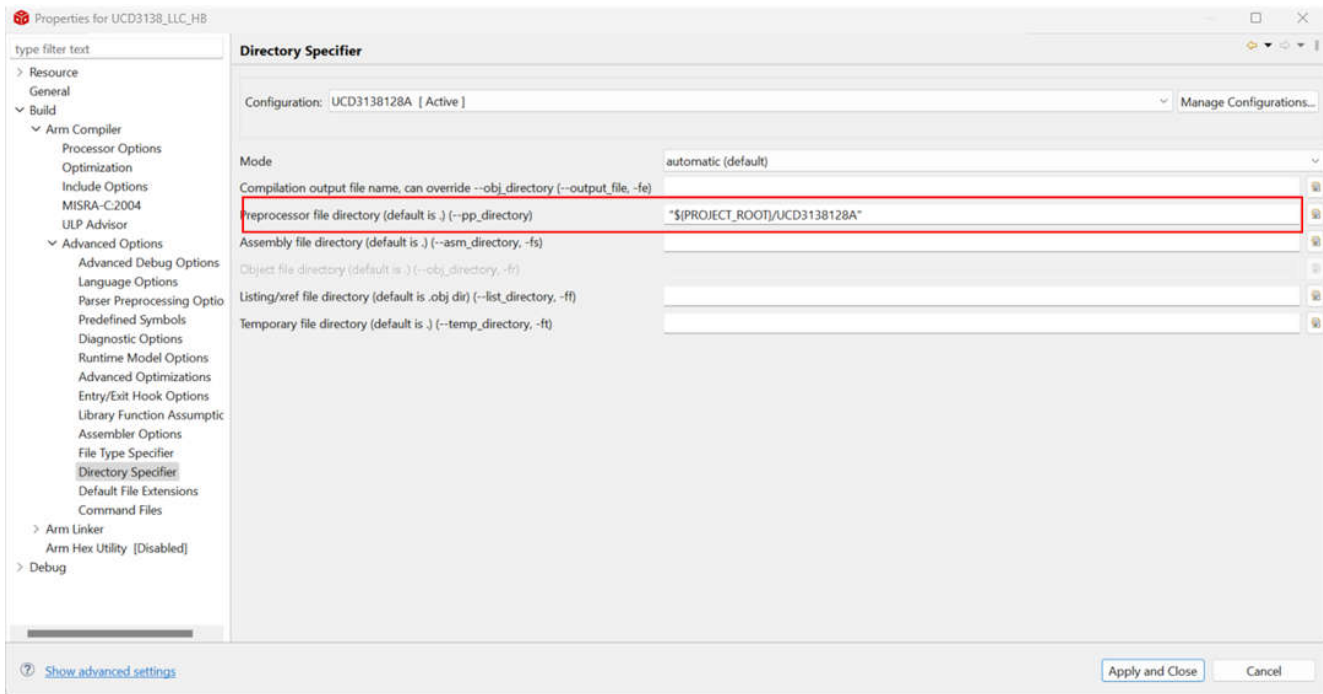

Figure 2-11. Correct Project Path for Preprocessor File Directory
- Configure the correct *preprocessor* file path. Open the *Project Explorer* pane, right-click the *project name*, and go to *Properties* -> *Build* -> *Arm Compiler* -> *Advanced Options* -> *Directory Specifier* to set the correct project path `"${PROJECT_ROOT}/UCD3138128A"` in the *Preprocessor file directory*. Figure 2-11 shows an example for UCD3138128A.